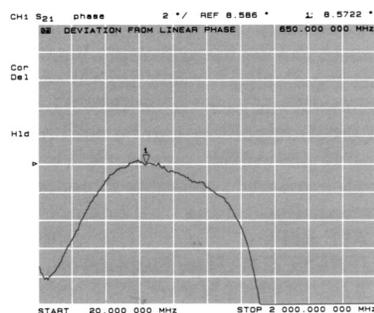

Figure 8. Expanded plot allows fine-tuning of the electrical delay
4. Expand the scale and fine-tune the electrical delay to flatten the phase near the center of the passband. (See Figure 8.)